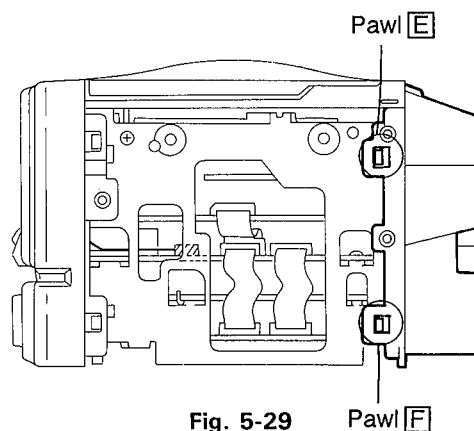

Fig. 5-29
3. Disengage the four sections [E], [F], [G] and [H] on both the right and left sides engaged with the chassis, and remove the rear panel two toward the rear side. (See Fig. 5-29~31)